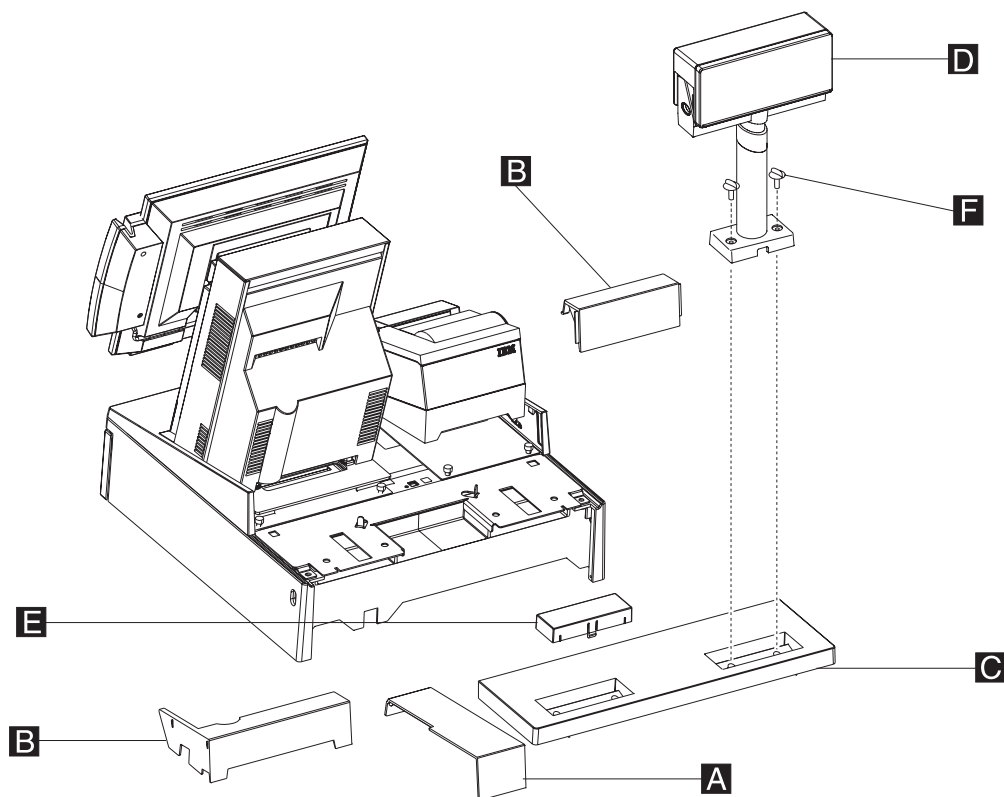

Figure 24. Attaching filler panels and the rear modesty cover
**Note:** If you are installing a distributed-character display, route the cable through the unattached rear modesty panel **C** in Figure 24 on page 32.